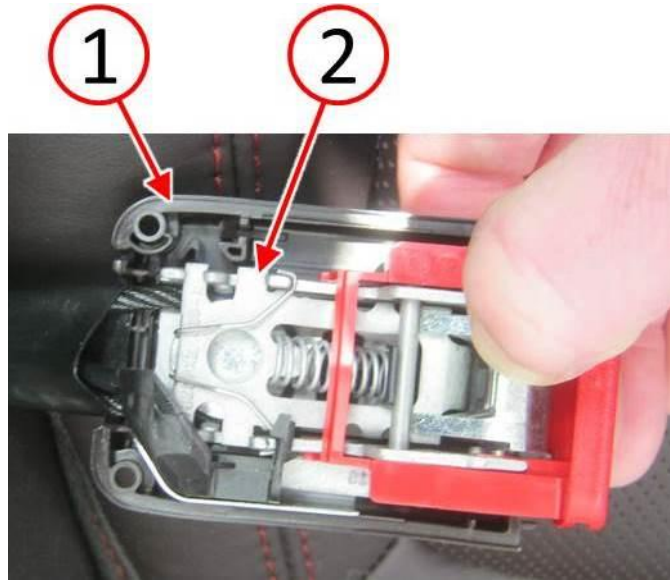

Fig. 5 Install NEW Seatbelt Buckle Lower Cover
6. Install a **NEW** lower cover (1). Cover should fit “snug” to the buckle mechanism (2) (Fig. 5).